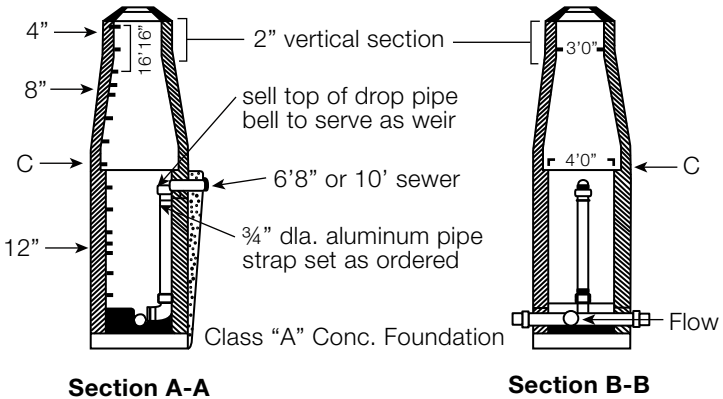

Figure 12
1. Inside drop manholes (Figures 12 and 13)